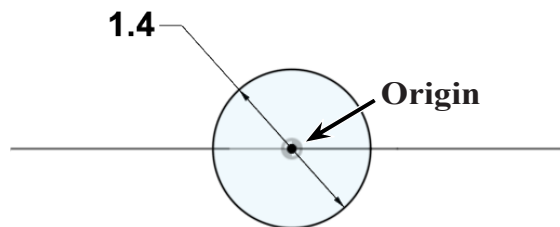

Fig. 10
Step 2. Click **Center Diameter Circle**  (C) in the Create area of toolbar.
Step 3. Sketch **circle** at Origin , **Fig. 10**.
Step 4. Click **Dimension**  (D) on the toolbar.
ameter 1.4, **Fig. 10**.